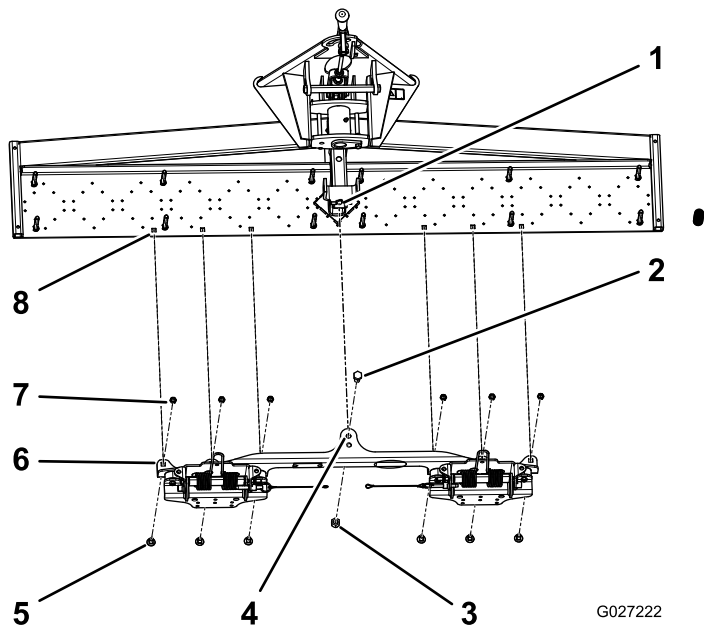
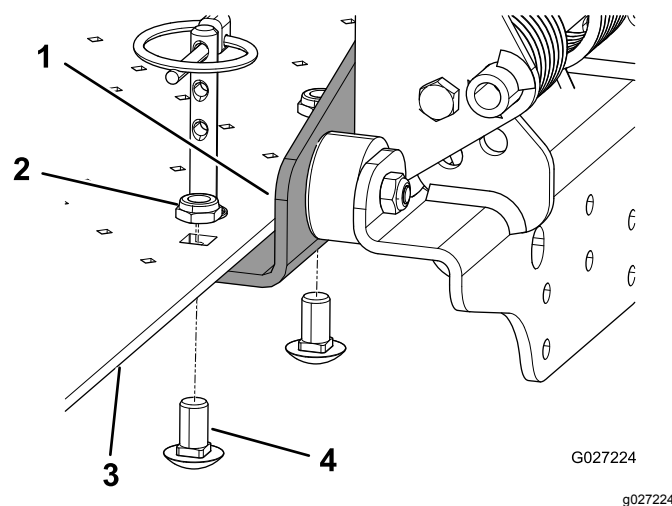
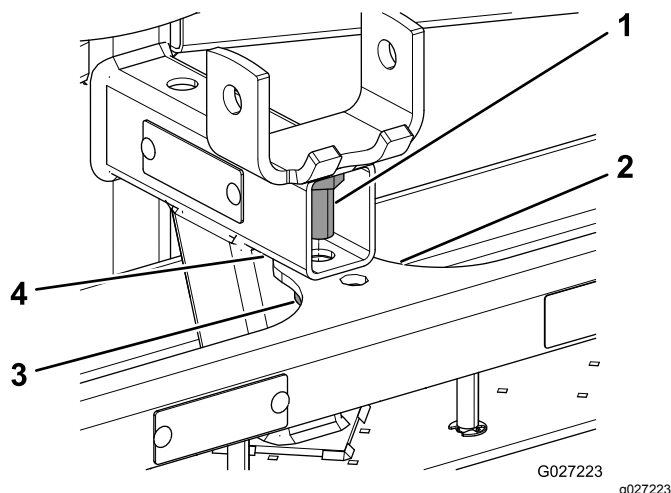
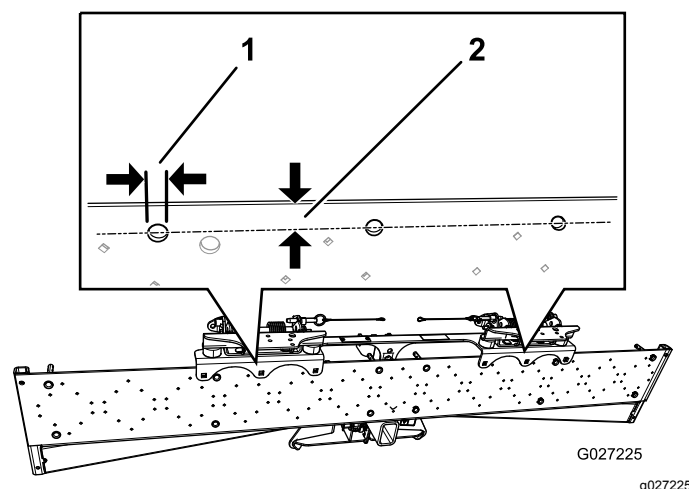

Figure 4
Figure 6
Figure 5
Figure 7
1. Align the **front** hole in the center tab on the nail-drag bracket to the hole in the rectangular tube on the nail drag (Figure 4 and Figure 5).
2. Install the bolt (1/2 x 1 inch) through both holes, and secure the bolt with the nut (1/2 inch); refer to Figure 5.
3. Align the 6 holes in the tabs on the nail-drag bracket with the 6 holes in the bottom plate of the nail drag (Figure 4 and Figure 6).
Note: Machines with serial numbers 314999999 and lower may not have existing holes. If there are not holes in the bottom plate of the nail drag, mark and drill six 10 mm (3/8 inch) holes as necessary. First install the center bolt and nut (Figure 5), and position the nail-drag bracket so that the **center** of each hole is 17 mm (0.67 inch) from the edge of the bottom plate (Figure 7).
4. Install a carriage bolt (3/8 x 3/4 inch) up through the bottom of each hole, and secure each carriage bolt with a nut (3/8 inch); refer to Figure 6.
5. Tighten the nut and bolt that you install in step 2 (Figure 5).